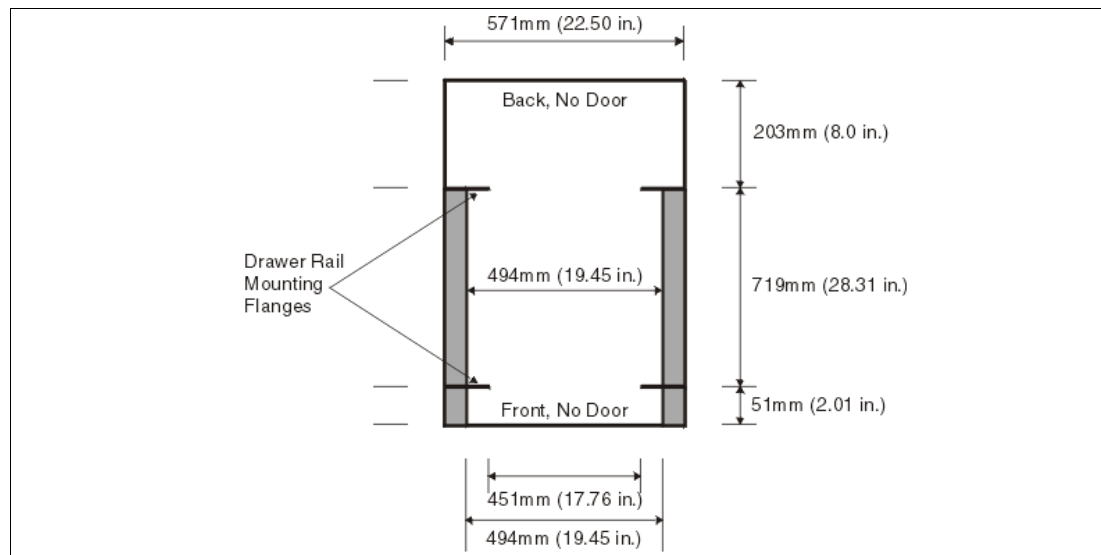

Figure 1-5 Top view of non-IBM rack specification dimensions
- The front rack opening must be 451 mm wide + 0.75 mm (17.75 inches + 0.03 inches), and the rail-mounting holes must be 465 mm + 0.8 mm (18.3 inches + 0.03 inches) apart on center (horizontal width between the vertical columns of holes on the two front-mounting flanges and on the two rear-mounting flanges). See Figure 1-5 on page 20 for a top view showing the specification dimensions.